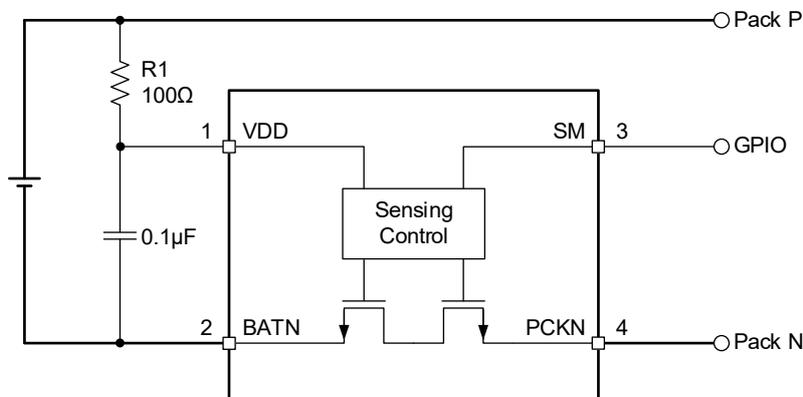

Figure 1. Typical Battery Pack Circuit
4. Tested with the circuit in Figure 1 and by applying a 4.5V, 5A power source to the Pack P and BATN for battery emulation. Short the Pack P and Pack N with a short wire (< 10m Ω).